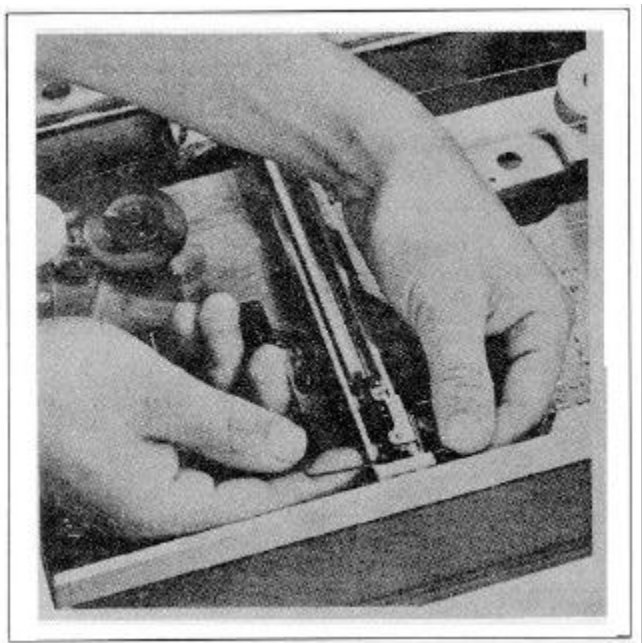

FIGURE 5-18. Y-AXIS PEN CARRIAGE ADJUSTMENT
- j. Slightly loosen two motor clamping screws from bottom of the recorder. Rotate motor slightly, first in one direction and then in the other, while moving pen gear back and forth until motor pinion rotates freely with minimum backlash. This procedure varies mesh between motor pinion and pen drive gear due to an eccentric mounting shoulder. A slight amount of backlash is desirable for optimum operation (See Figure 5-18).
- a. Move pen block to bottom of arm so 2-56 Bristol setscrew in block is aligned with notch in side of arm, see Figure 5-18.